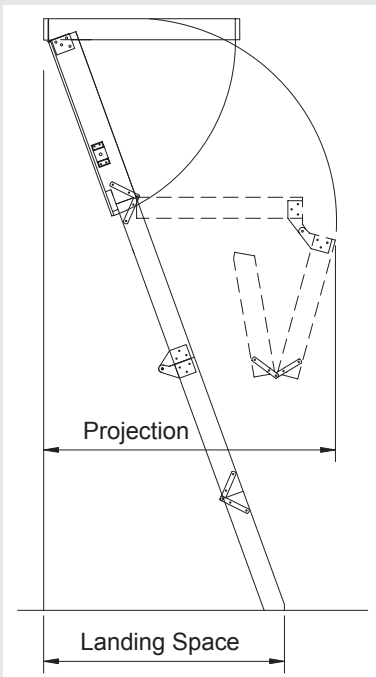

fig 1
4. Allowance must be made for the operation of the stairs, as they require a greater space to open than indicated by the opening in the ceiling (figure 1). All dimensions in mm.